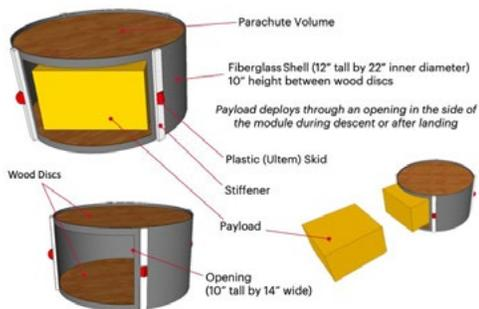

Figure 4. Payload Module Configuration Option 2
- Option 2: The payload deploys through an opening in the side of the module before or after landing. The payload can be attached temporarily or permanently inside the module. (Figure 4)